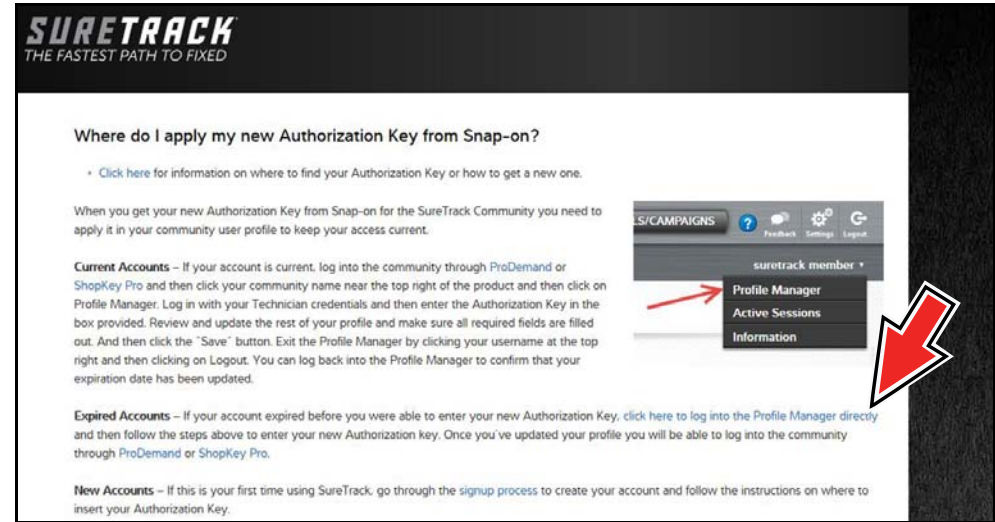

Figure 15-11
3. The SureTrack FAQ webpage opens (Figure 15-11).